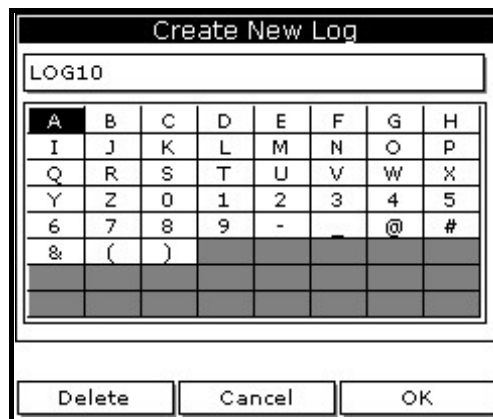

Figure 42: Name Entry Window for a New Log
4. Use the arrow key to scroll to Clone Selected Log and press [ENTER]. The screen now appears similar to Figure 42 on page 55.